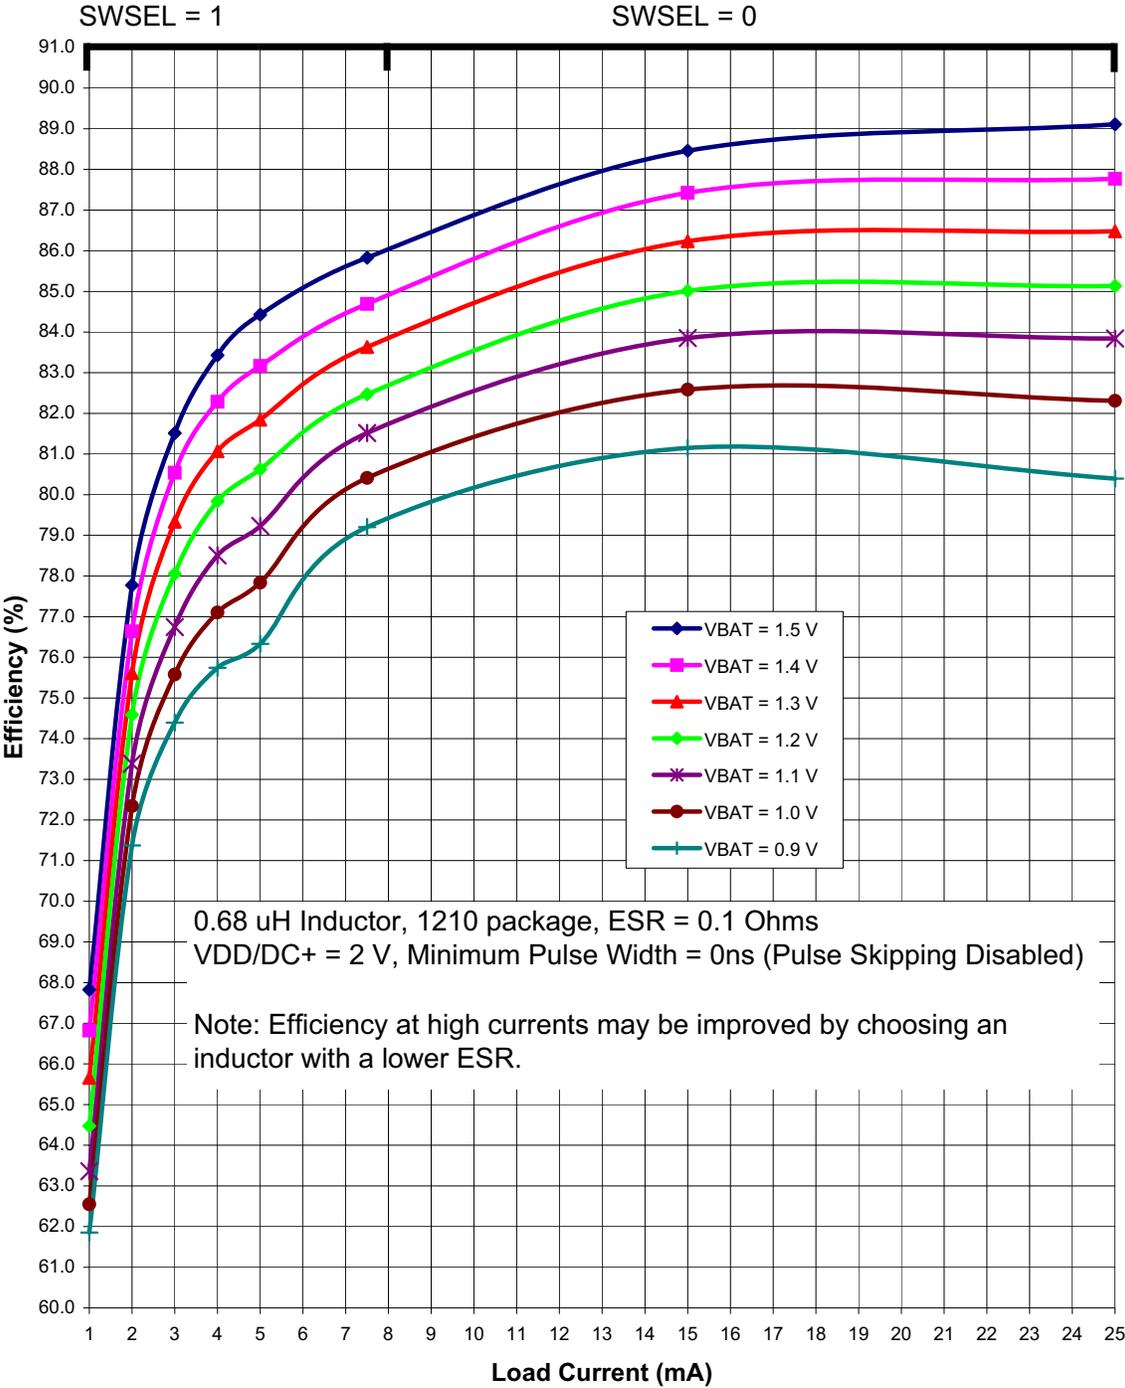
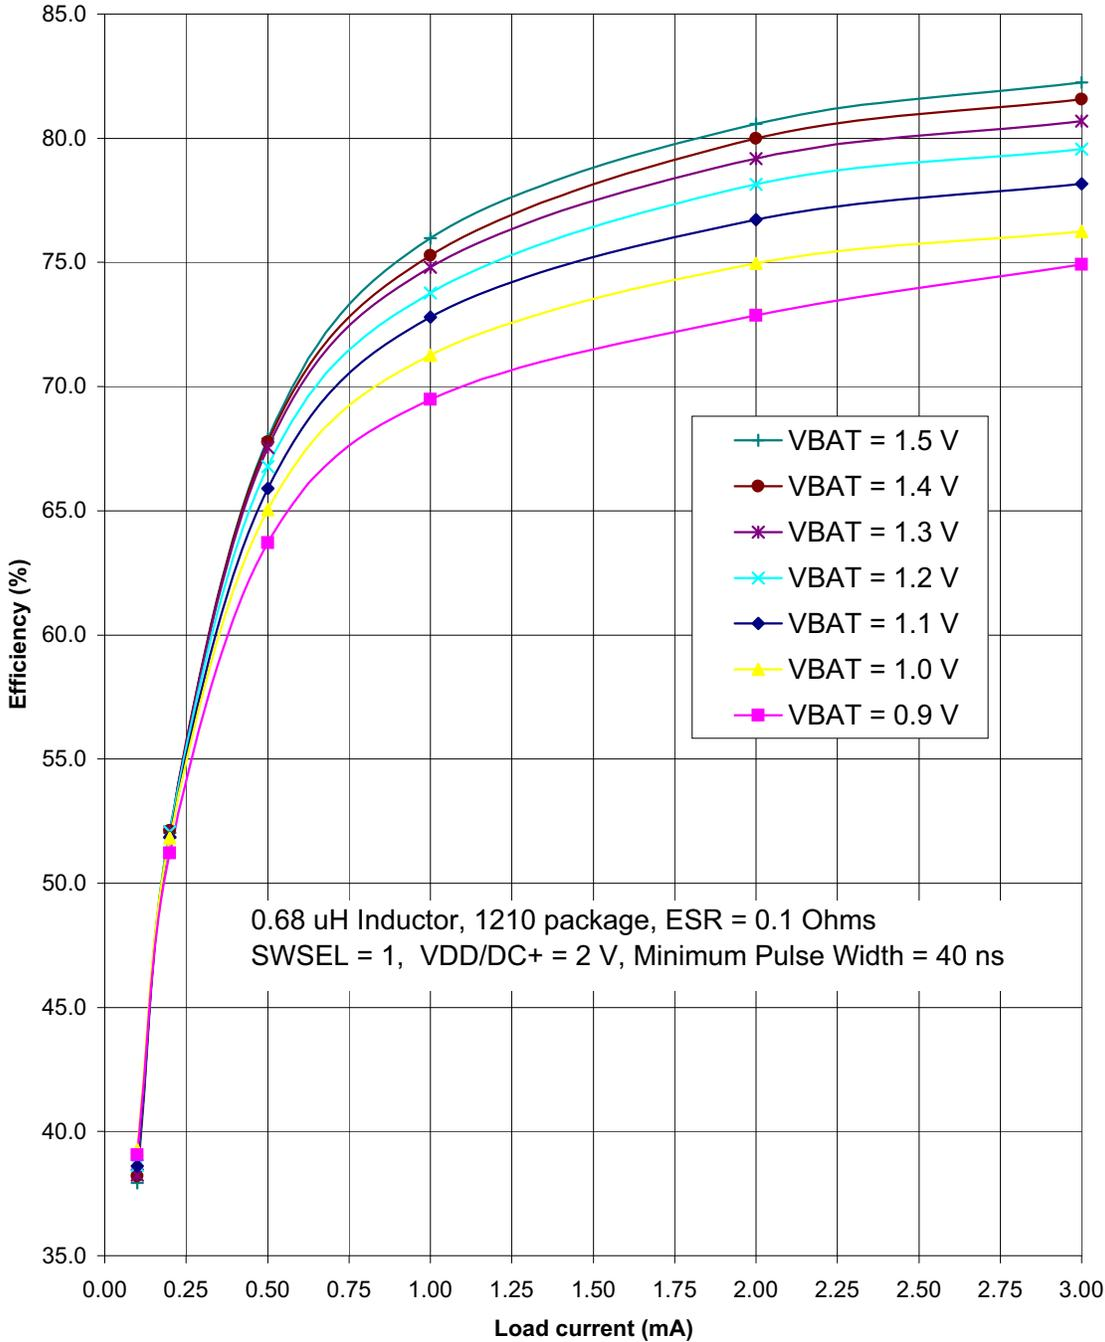

Figure 4.3. Typical DC-DC Converter Efficiency (High Current, VDD/DC+ = 2 V
Figure 4.5. Typical DC-DC Converter Efficiency (Low Current, VDD/DC+ = 2 V)
<ol style="list-style-type: none"> Based on device characterization data; Not production tested. SYSCLK must be at least 32 kHz to enable debugging. Digital Supply Current depends upon the particular code being executed. The values in this table are obtained with the CPU executing an "sjmp \$" loop, which is the compiled form of a while(1) loop in C. One iteration requires 3 CPU clock cycles, and the flash memory is read on each cycle. The supply current will vary slightly based on the physical location of the sjmp instruction and the number of flash address lines that toggle as a result. In the worst case, current can increase by up to 30% if the sjmp loop straddles a 128-byte flash address boundary (e.g., 0x007F to 0x0080). Real-world code with larger loops and longer linear sequences will have few transitions across the 128-byte address boundaries. Includes oscillator and regulator supply current. IDD can be estimated for frequencies ≤ 10 MHz by simply multiplying the frequency of interest by the frequency sensitivity number for that range, then adding an offset of 90 μA. When using these numbers to estimate I_{DD} for >10 MHz, the estimate should be the current at 25 MHz minus the difference in current indicated by the frequency sensitivity number. For example: $V_{DD} = 3.0$ V; $F = 20$ MHz, $I_{DD} = 4.1$ mA – $(25 \text{ MHz} - 20 \text{ MHz}) \times 0.120 \text{ mA/MHz} = 3.5$ mA. The Supply Voltage is the voltage at the VDD_MCU pin, typically 1.8 to 3.6 V (default = 1.9 V). Idle IDD can be estimated by taking the current at 25 MHz minus the difference in current indicated by the frequency sensitivity number. For example: $V_{DD} = 3.0$ V; $F = 5$ MHz, Idle $I_{DD} = 2.5$ mA – $(25 \text{ MHz} - 5 \text{ MHz}) \times 0.095 \text{ mA/MHz} = 0.6$ mA. The supply current specifications in Table 4.2 are for two cell mode. The VBAT current in one-cell mode can be estimated using the following equation: $\text{VBAT Current (one-cell mode)} = \frac{\text{Supply Voltage} \times \text{Supply Current (two-cell mode)}}{\text{DC-DC Converter Efficiency} \times \text{VBAT Voltage}}$ <p>The VBAT Voltage is the voltage at the VBAT pin, typically 0.9 to 1.8 V. The Supply Current (two-cell mode) is the data sheet specification for supply current. The Supply Voltage is the voltage at the VDD/DC+ pin, typically 1.8 to 3.3 V (default = 1.9 V). The DC-DC Converter Efficiency can be estimated using Figure 4.3–Figure 4.5.</p> The radio peripheral is placed in Shutdown mode.